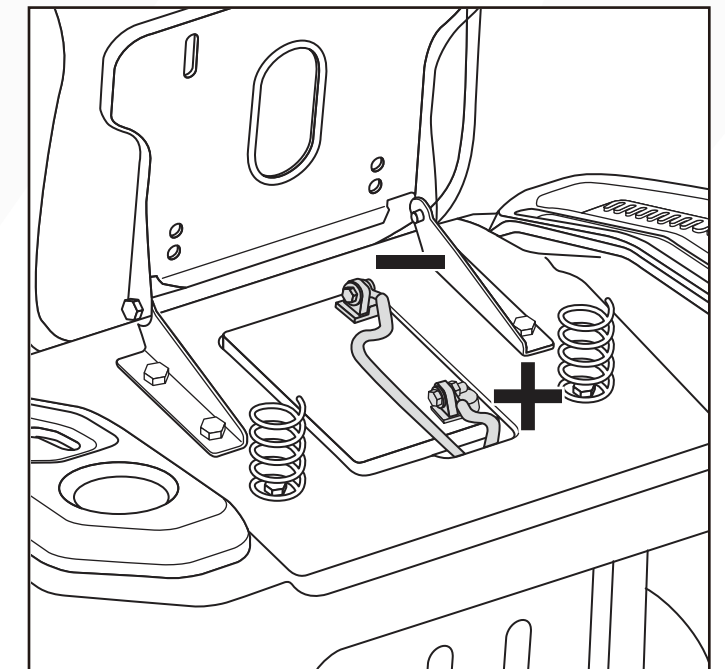

Fig. 7
2. Attach the negative cable (black) to the negative battery terminal using the bolt and nut.(Fig. 7)